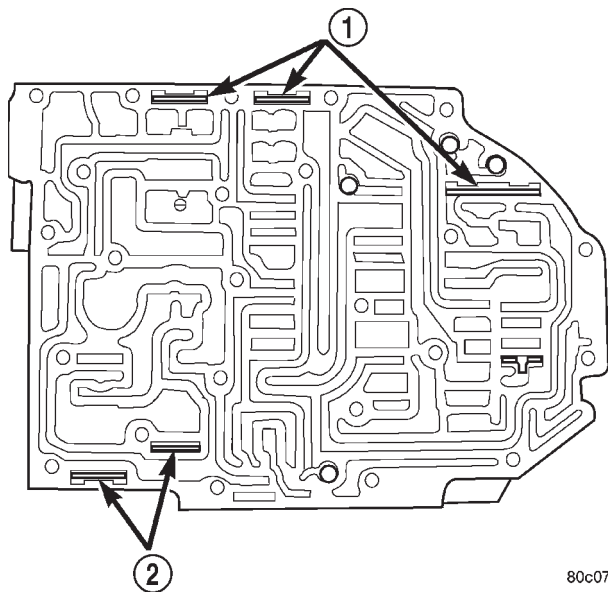

Fig. 142 Valve Retainer Location
- (6) Verify that all retainers are installed as shown in (Fig. 142). Retainers should be flush or below valve body surface.